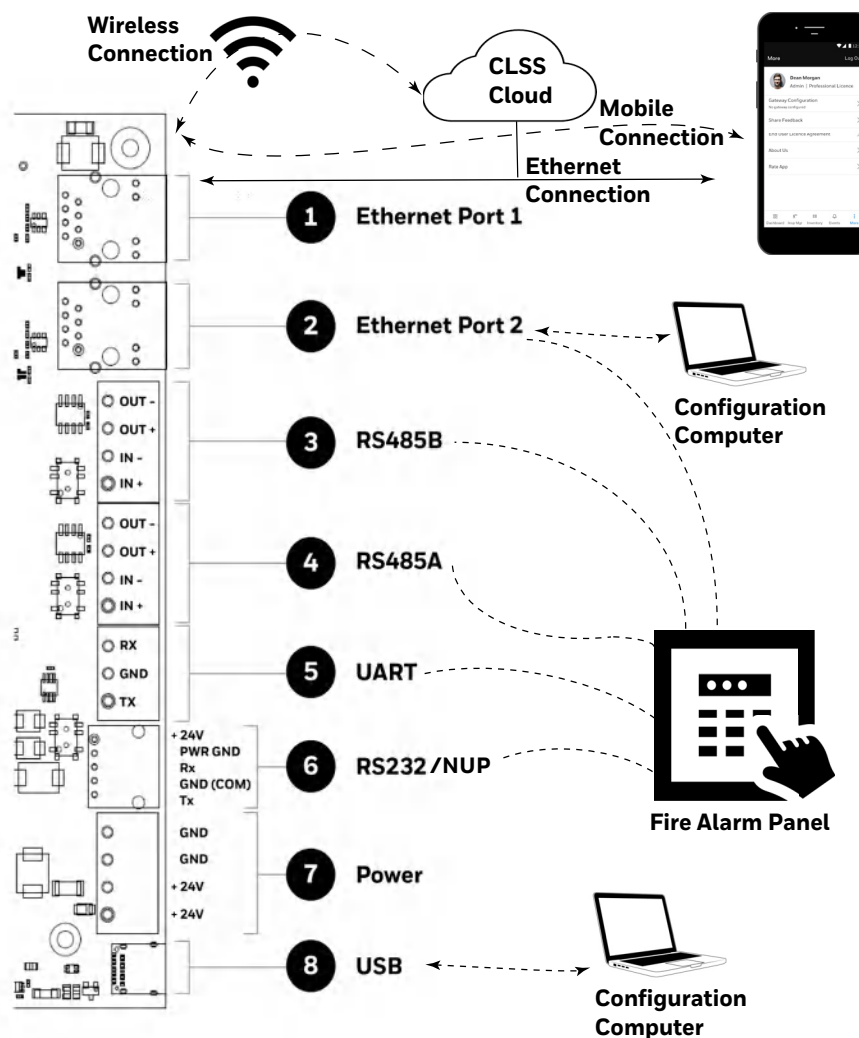

Figure 3.7: Gateway Connection Options - Bottom Side
Figure 3.7 illustrates connection options at the bottom side of the gateway board.
1. At the CLSS Gateway side, connect an Ethernet cable to the Ethernet port numbered 2 in Figure 3.7.